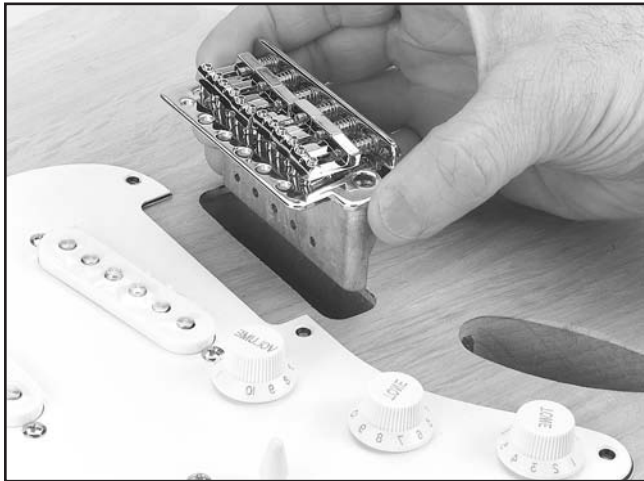

Figure 19. Tremolo bridge placement.
1. Place the tremolo bridge in the cut-out shown in **Figure 19**.